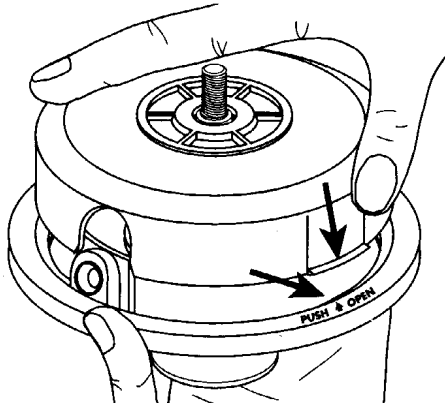

Figure 22
9. Align the eyelet projections and snap the cover and head together (Figs. 22).